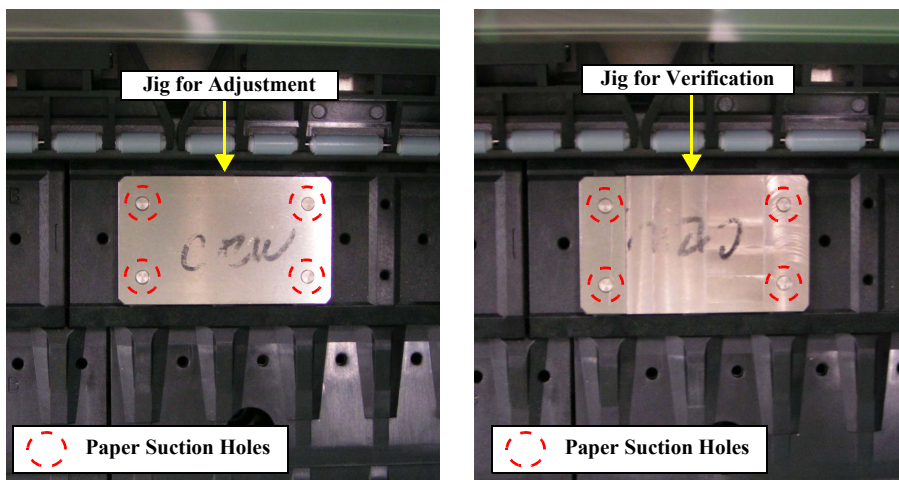

Figure 5-4. Jig Setting Positions
1. Set the adjustment jig on the platen at home side by putting the four legs of the jig into the paper suction holes as shown in Figure 5-4. Then move the Carriage Unit slowly until the Ink Mark Sensor comes on the jig.
3. Set the jig for verification to the position shown in Figure 5-4, and move the Carriage Unit slowly until the Ink Mark Sensor comes on the jig. Then check that the sensor slightly contacts with the elevated portion of the jig.